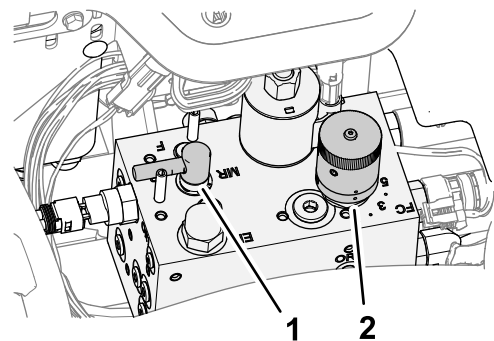

Figure 94
3. Move the backlap lever to the F (mow) position (Figure 94).